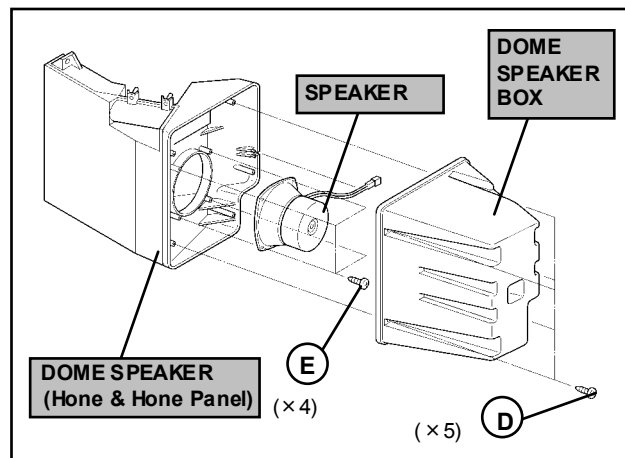

Fig. 2
2. Remove the 5 screws marked (D) as shown in the Fig.2, then remove the dome box.
3. Remove the 4 screws marked (E) as shown in the Fig.2, then remove the speaker.